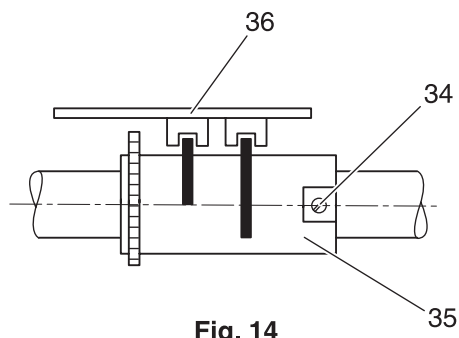

Fig. 14
- Loosen fastening screw 34 of cam 35 just slightly (fig. 14).
- Keep on turning cam 35 very slowly until the zigzag stepping motor switches (fig. 14).